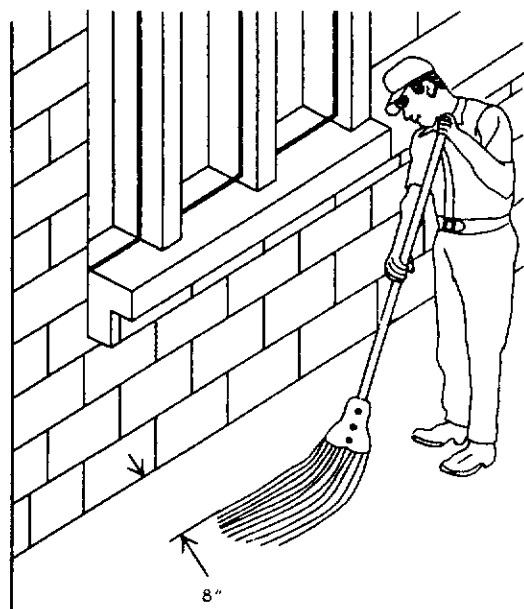

Figure 7-1
- i. Apply finish to floor surface using several thin applications in sections approximately 8 by 8 feet. Begin applying the finishing product from the wall outward by dragging the mop parallel to and 8 inches away from baseboards, forming wet, parallel stripes on the floor. (See Figure 7-1) Then, walking backward, work in a figure-eight motion, turning mop over every three or four strokes, to the inner edges of the parallel stripes so as not to splash baseboards and walls.